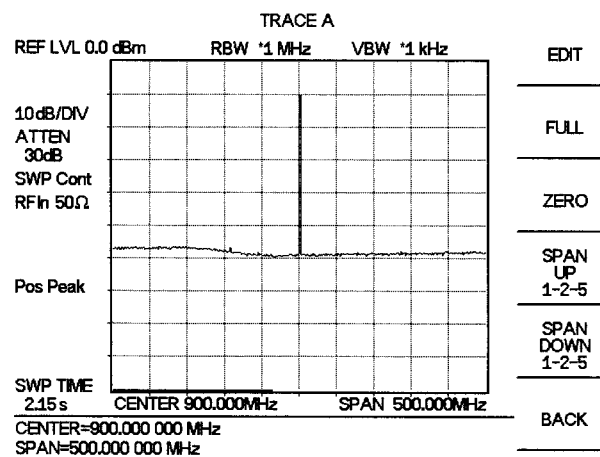

Figure 2-8. Signal at 900 MHz
Step 3. Enter 900 on the keypad and select the **MHz** soft key . Observe that the signal resembles that shown in Figure 2-8.